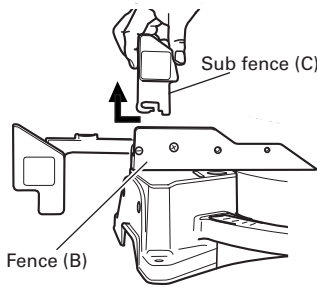
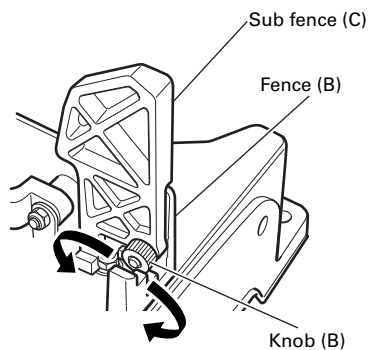

Fig. 13
Fig. 14
In the case of left bevel angle cutting, remove the sub fence (C) by sliding to the side and removing from the top as shown in Fig. 13. Loosen knob (B) then remove the sub fence (C) (Fig. 14)
**⚠ WARNING:** To attach the sub fence (C), insert then securely tighten knob (B). If knob (B) is loose, the sub fence (C) may move during cutting and result in injury.